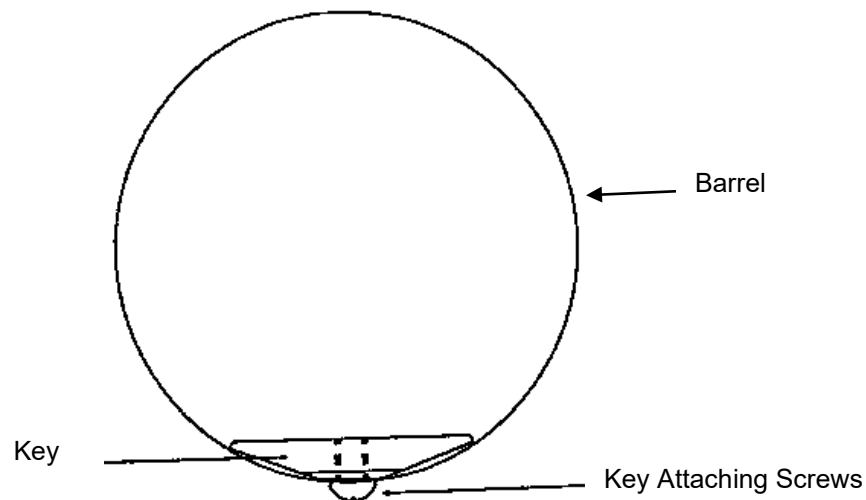

Figure 4.5-3
- With the old screws or with the new screws provided with the new key, attach new flat barrel key (2928-xxx) into the inside diameter of the barrel, utilizing the existing key attachment holes. See Figure 4.5-3 for key configuration and placement of key in barrel.
NOTE: Widest flat dimension on the key must face inward. Refer to Figure 4.5-3.
- Slide the barrel over the jaw and into the housing. Make sure that the barrel key is on the bottom, as shown in Figure 4.5-3.